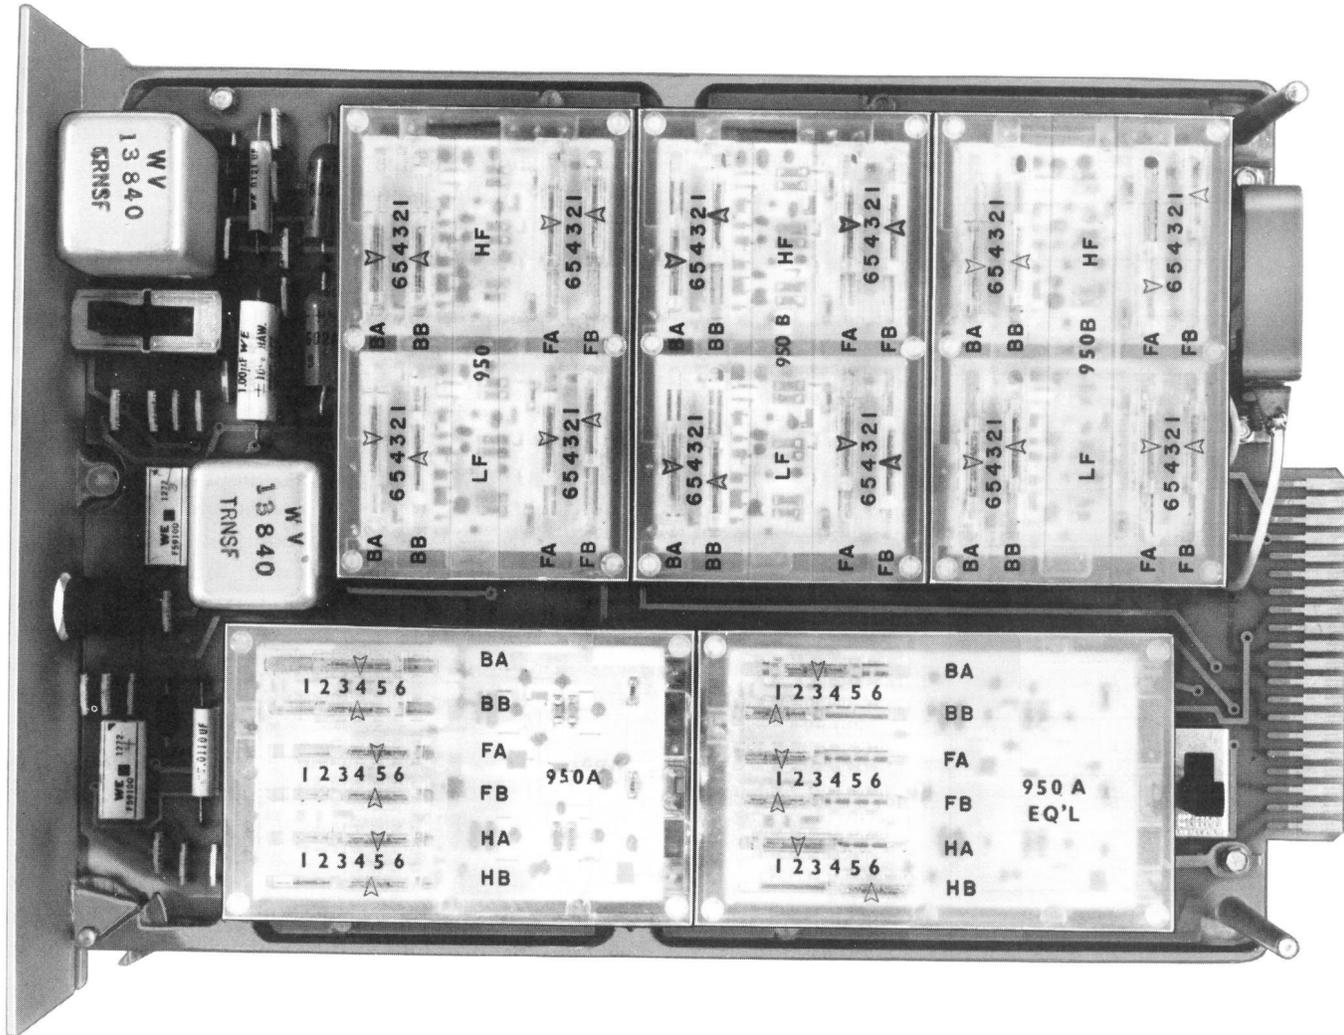

Fig. 2—J-99347AA (or J-Board Equalizer) With Five 950-Type Equalizers
**1.03** The J-board equalizer and associated equipment, including the plug-in 950-type equalizers, can provide a greater latitude for conditioning voiceband data transmission facilities than the equipment it replaces. The J-board equalizer (see Fig. 1) supplies gain needed to make up for equalizer loss. When the J-board equalizer is complemented with plug-in 950-type equalizers (see Fig. 2), then adjustable amplitude and/or delay equalization is provided to accomplish conditioning of the facility. Since only two codes of the 950-type equalizer are necessary to condition any facility, the central office inventory of spare equalizers will be minimized.